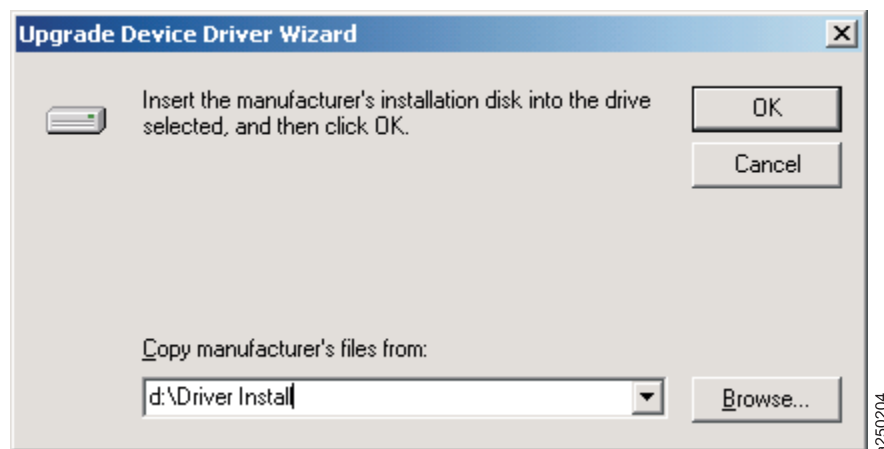

Figure 31. Specifying the Location of the Driver
14. A screen appears with a prompt for the location of the device driver files. You should specify the directory into which you unzipped the driver files. For example, if you unzipped the files into d:\Driver Install, you would type d:\Driver Install in the edit. See Figure 31.